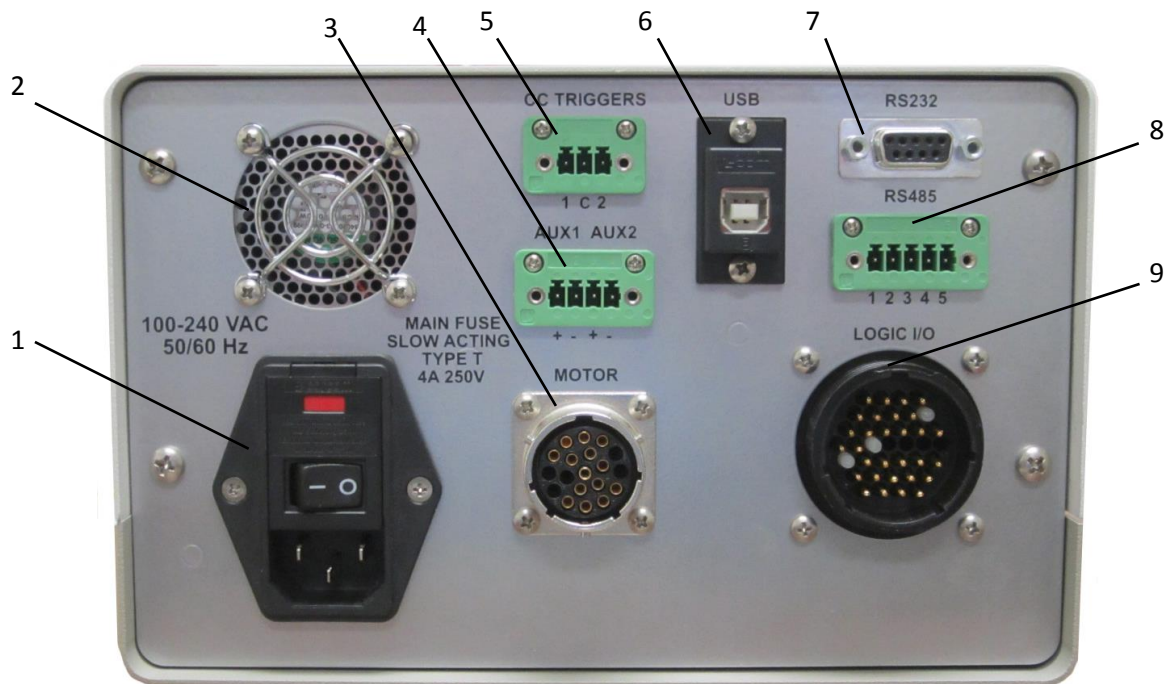

Figure 3.2 Digispense 3020 Controller Module Rear Panel
3.1.2 Rear Panel Detail (Figure 3.2)
3.1.2.1 Power Entry Module (Figure 3.2 Item 1)
3.1.2.2 Fan (Figure 3.2 Item 2)
3.1.2.3 MOTOR Connector (Figure 3.2 Item 3)
3.1.2.4 AUX1 AUX2 Connector (Figure 3.2 Item 4)
3.1.2.5 CC TRIGGERS Connector (Figure 3.2 Item 5)
3.1.2.6 USB Connector (Figure 3.2 Item 6)
3.1.2.7 RS232 Connector (Figure 3.2 Item 7)
3.1.2.8 RS485 Connector (Figure 3.2 Item 8)
3.1.2.9 LOGIC I/O Connector (Figure 3.2 Item 9)